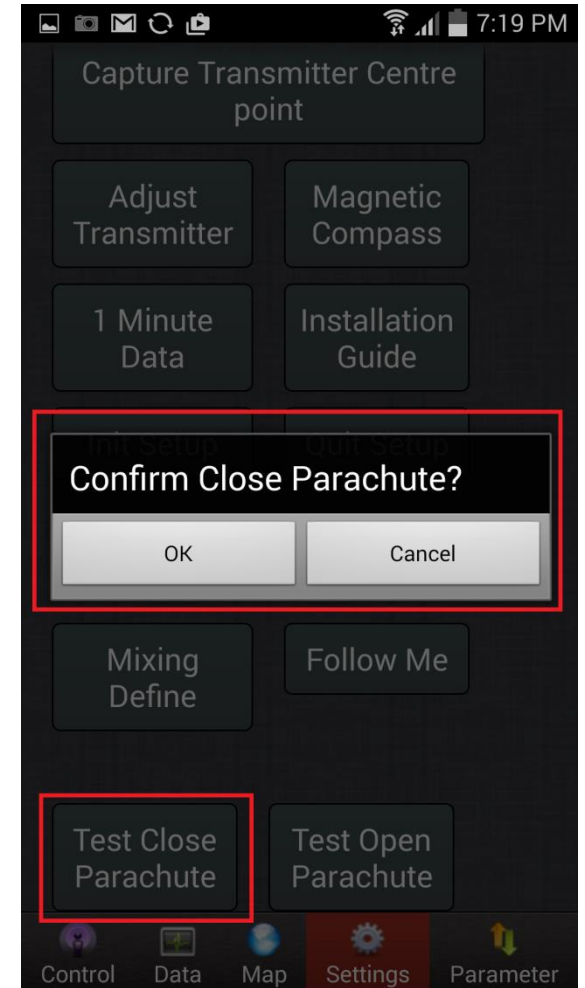

Figure18 Android GCS test-close
3. Click “Test Close Parachute” and click “OK”, as shown in Figure18.